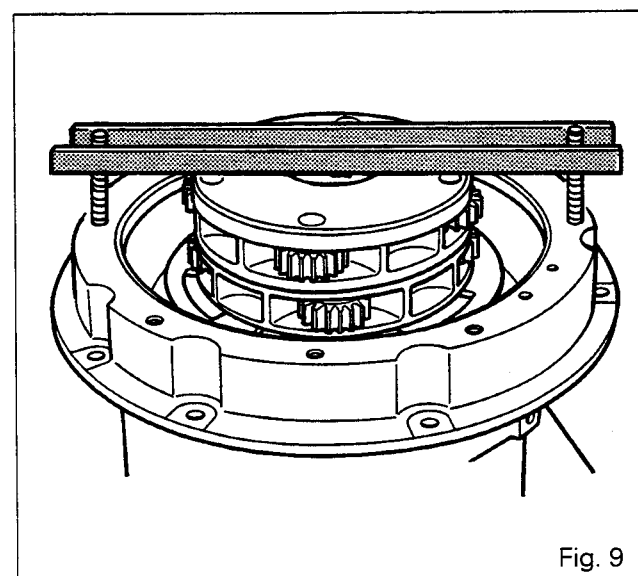

Fig. 9
15. Compress the planetary carrier assembly using tool 3376920M1 (Fig. 9).
16. Remove the retaining ring (72). Remove the tab washer (76), the planetary carrier assembly and the shims [71].
17. Remove the secondary sun gear (61) and the retaining ring (49) (if necessary).